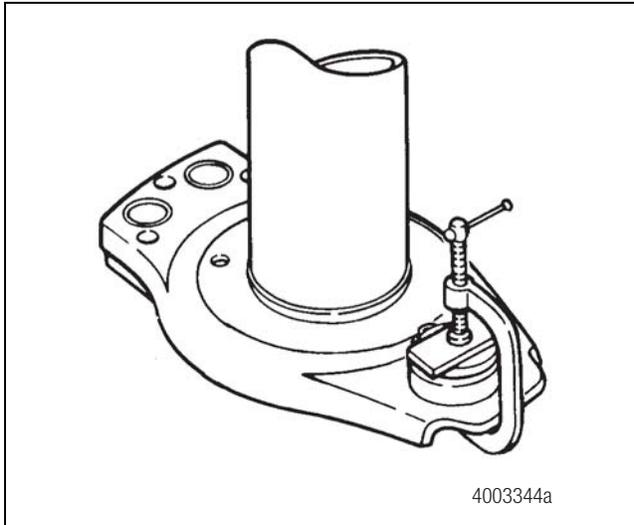
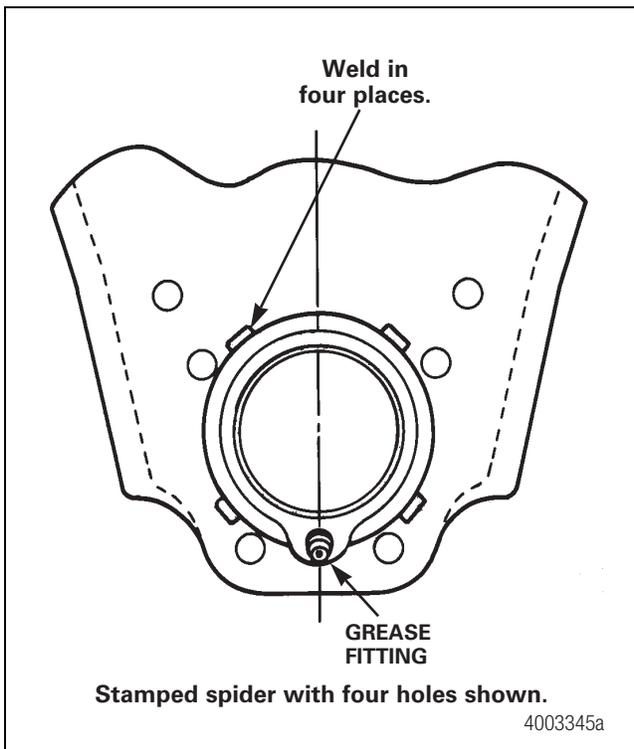

Figure 12.44
Figure 12.45
4. Press a new retainer into the spider with a C-clamp. Figure 12.44. Verify that the grease fitting is positioned correctly. Figure 12.45.
5. Weld the retainer in four places using AWS E70S3 or E70S6 electrodes. Each weld should have a 0.1875-inch (4.76 mm) fillet and be 0.375-inch (9.52 mm) long. Figure 12.45.